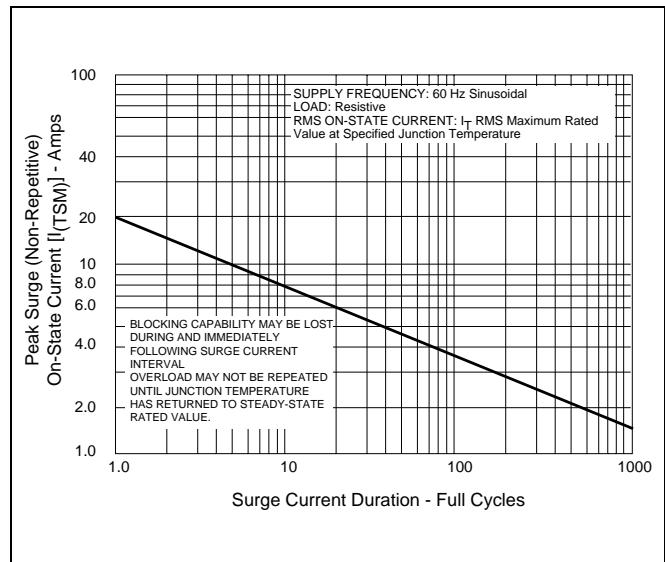
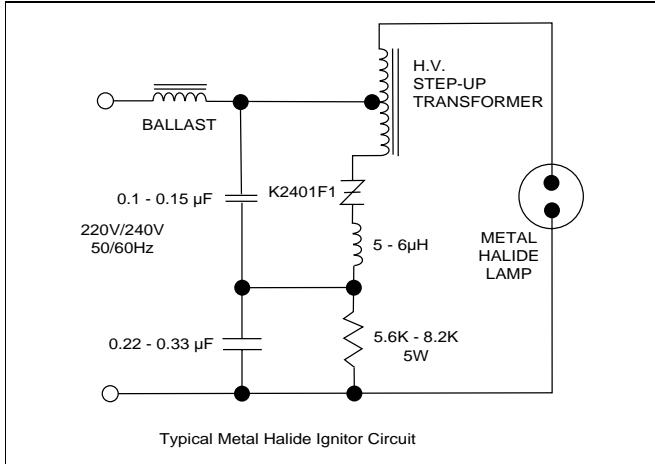
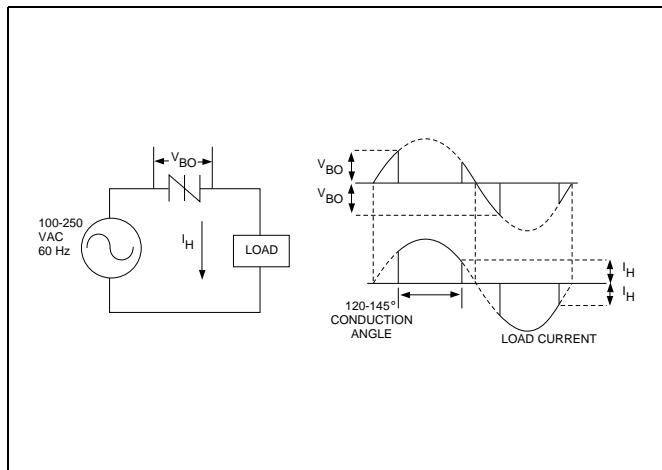

Figure 9.1 Peak Surge Current vs Surge Current Duration
Figure 9.3 Typical Metal Halide Ignitor Circuit
Figure 9.15 Basic Sidac Circuit
- (5) See Figure 9.1 for more than one full cycle rating.
- (6) $R_{\theta JA}$ for TO-202 Type 23 and Type 41 is 70°C/watt.
- (7) $T_C \leq 90^\circ C$ for TO-92 Sidac and $T_C \leq 105^\circ C$ for TO-202 Sidacs. $T_L \leq 100^\circ C$ for DO-15X and $T_L \leq 90^\circ C$ for DO-214AA.
- (8) See Figure 9.15 for clarification of Sidac operation.
- (9) For best Sidac operation, the load impedance should be near or less than switching resistance.
- (10) Teccor's new, improved series of sidacs is designed to ensure good commutation at higher switching frequencies as required in ignitor circuits for high intensity discharge (HID) lighting. A typical circuit for a metal halide lamp ignitor is shown in the schematic, Figure 9.3. With proper component selection this circuit will produce three pulses for ignition of Osram lamp types such as HQI-T70W, HQI-T150W, and HQI-T250W which require a minimum of three pulses at 4kV magnitude and >1μs duration each at a minimum repetition rate of 3.3kHz.